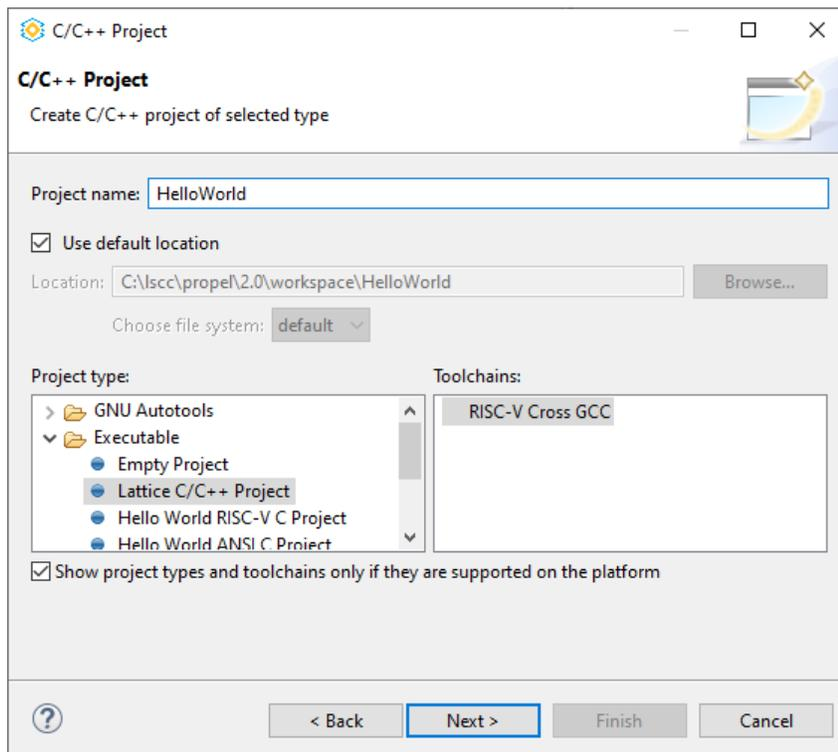

Figure 4.10. Create C Project Page
5. Enter project name “HelloWorld” (Figure 4.10). Click **Next**. Then click **Finish**.